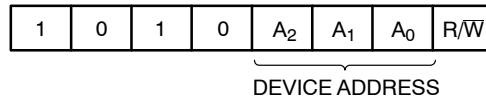

Figure 3. Slave Address Bits
The Master initiates data transfer by creating a START condition on the bus. The Master then broadcasts an 8-bit serial Slave address. The first 4 bits of the Slave address are set to 1010, for normal Read/Write operations (Figure 3). The next 3 bits, A₂, A₁ and A₀, select one of 8 possible Slave devices. The last bit, R/W, specifies whether a Read (1) or Write (0) operation is to be performed.